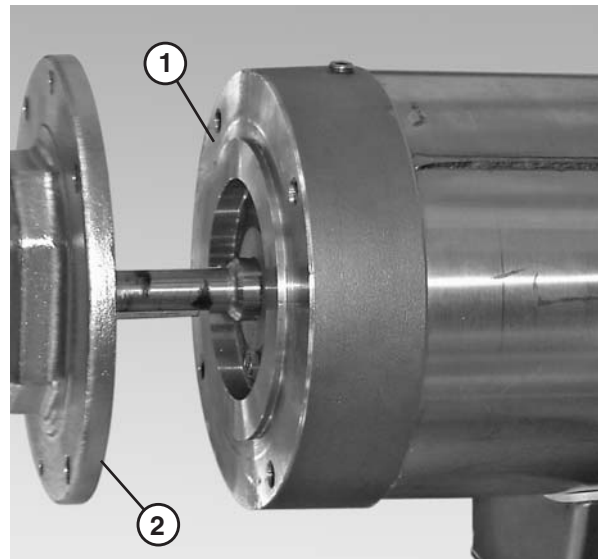

Figure 12
2. Detach the motor (**Figure 12, item 1**) from the gear reducer (**Figure 12, item 2**) and set the motor aside.